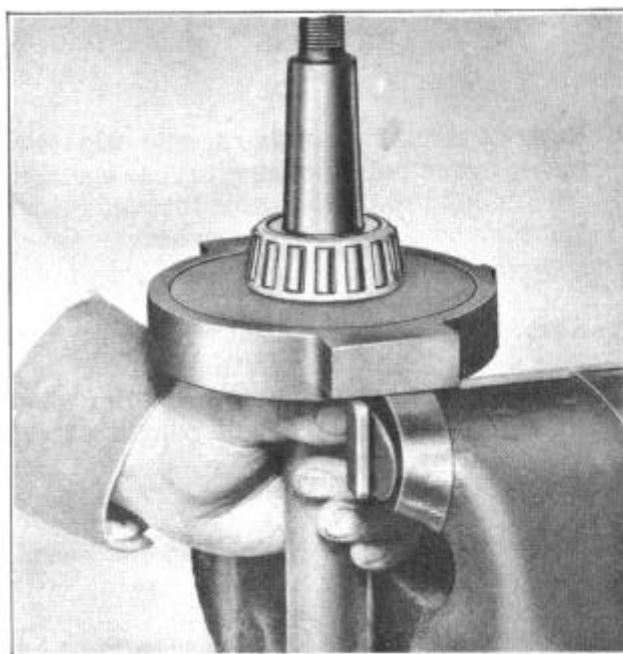

FIGURE 10
6. Remove bearing from axle shaft, using bearing remover J-358-H-1 Holder and J-2641 Adapter, Figure 10.